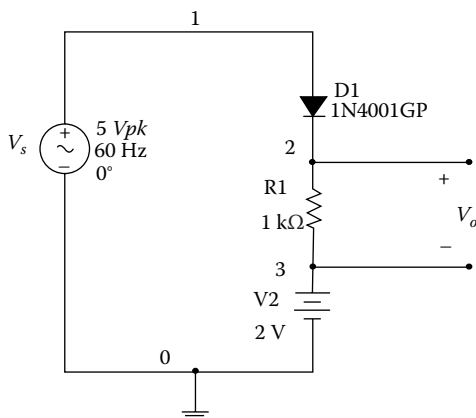

FIGURE 6.10
A battery-charging circuit is shown in Figure 6.10. The battery voltage is 2 V. The source voltage is $v_s(t) = 5 \sin(120\pi t)$ V, and the load resistance is 1000Ω . Use the Analog Discovery board to (1) display the input voltage, (2) display the current flowing through the diode, (3) measure the conduction angle of the diode, and (4) determine the peak current.
Use a breadboard to build the circuit shown in Figure 6.10. Connect the AWG1 (yellow wire) to node 1 of the circuit. Also, connect the scope channel 1 positive (orange wire) to node 1. In addition, connect the ground (black wire) to node 0 of the circuit. Moreover, connect the scope channel 1 negative (orange-white wire) to node 0. Furthermore, connect the scope channel 2 positive (blue wire) to node 2, and the scope channel 2 negative (blue-white wire) to node 3.